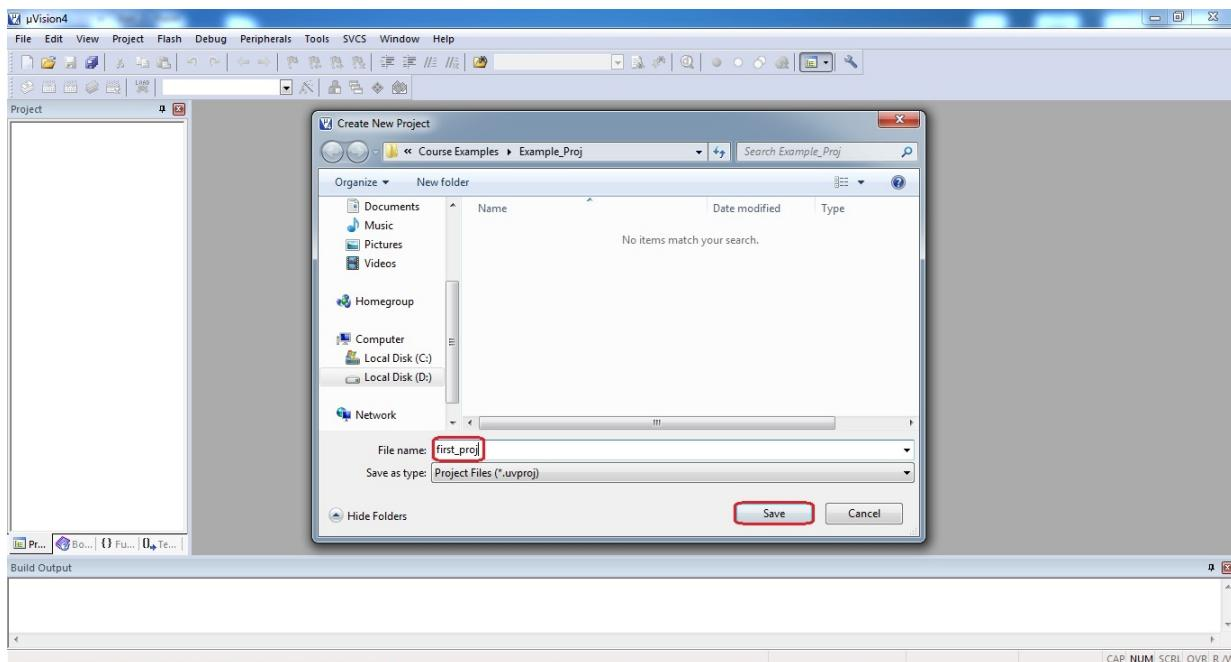

Figure 1.9: Type the name of the project in Keil and save it
3. Select and create a directory, then assign a name to your project (project name can be different from folder name) then click on **Save**. **Do not make a directory, file or project name with a space in it**. A space will prevent simulation from working properly. (Figure 1.9).